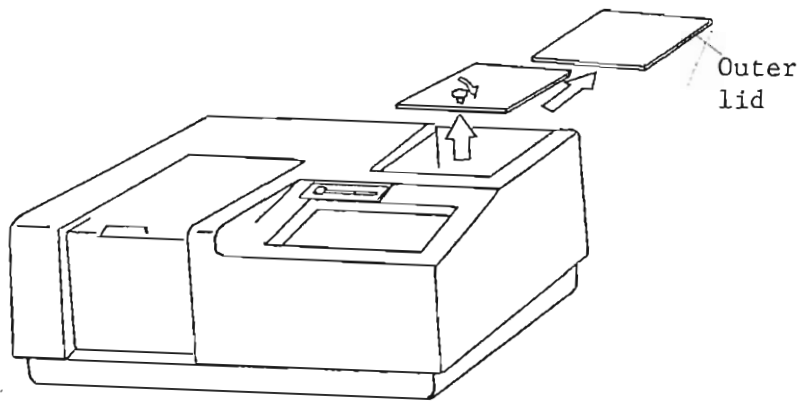

Fig. 1
- 1) Slide the outer lid of the light source to remove it and then remove the inner lid. (Refer to Fig. 1.)